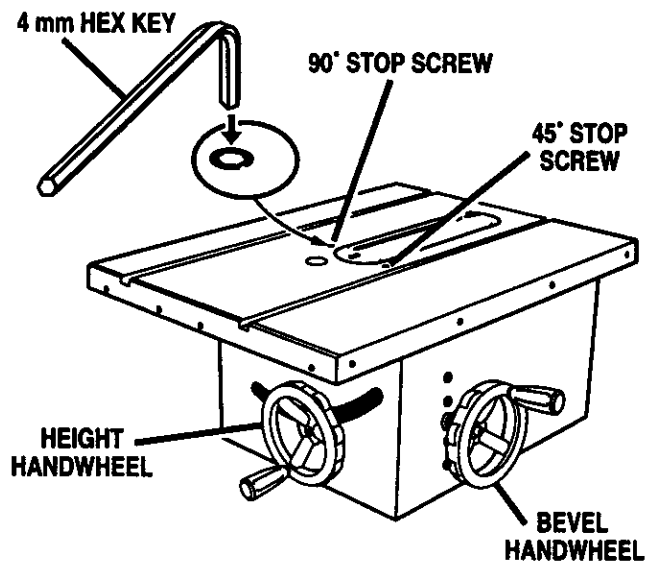

Fig. 44
- If blade angle is wrong, adjust the 90° stop screw (left of the blade, looking from the front). See Figure 44. Start by turning the 90° stop screw three or four times with a 4 mm hex key.